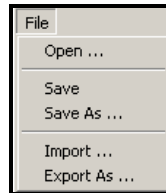

Figure 62. Header Button | Map Header Dialog | File Menu
The **File** menu on the **Map Header** dialog has five (5) selections as shown in Figure 62.